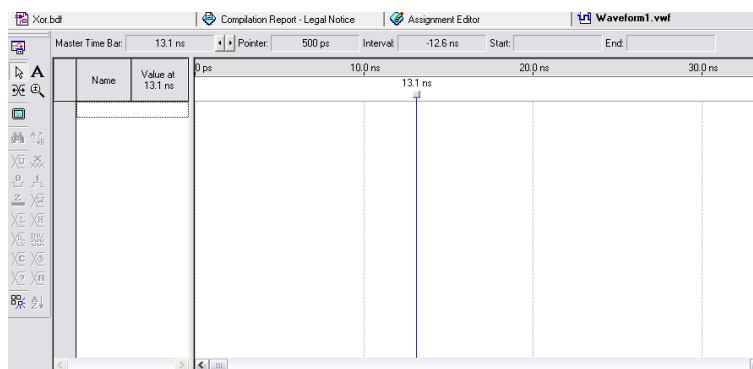
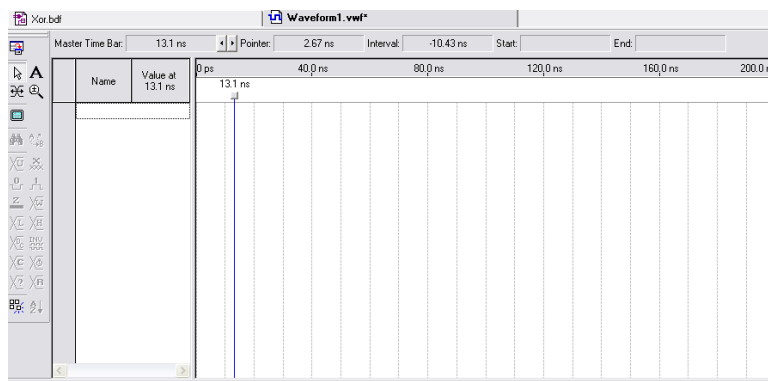

Figure 27. The Waveform Editor window.
Figure 28. The augmented Waveform Editor window.
2. The Waveform Editor window is depicted in Figure 27. **Save the file** under the name Xor.vwf; note that this changes the name in the displayed window. Set the desired simulation to run from 0 to 200 ns by selecting **Edit > End Time** and entering 200 ns in the dialog box that pops up. Selecting **View > Fit in Window** displays the entire simulation range of 0 to 200 ns in the window, as shown in Figure 28. You may wish to resize the window to its maximum size.